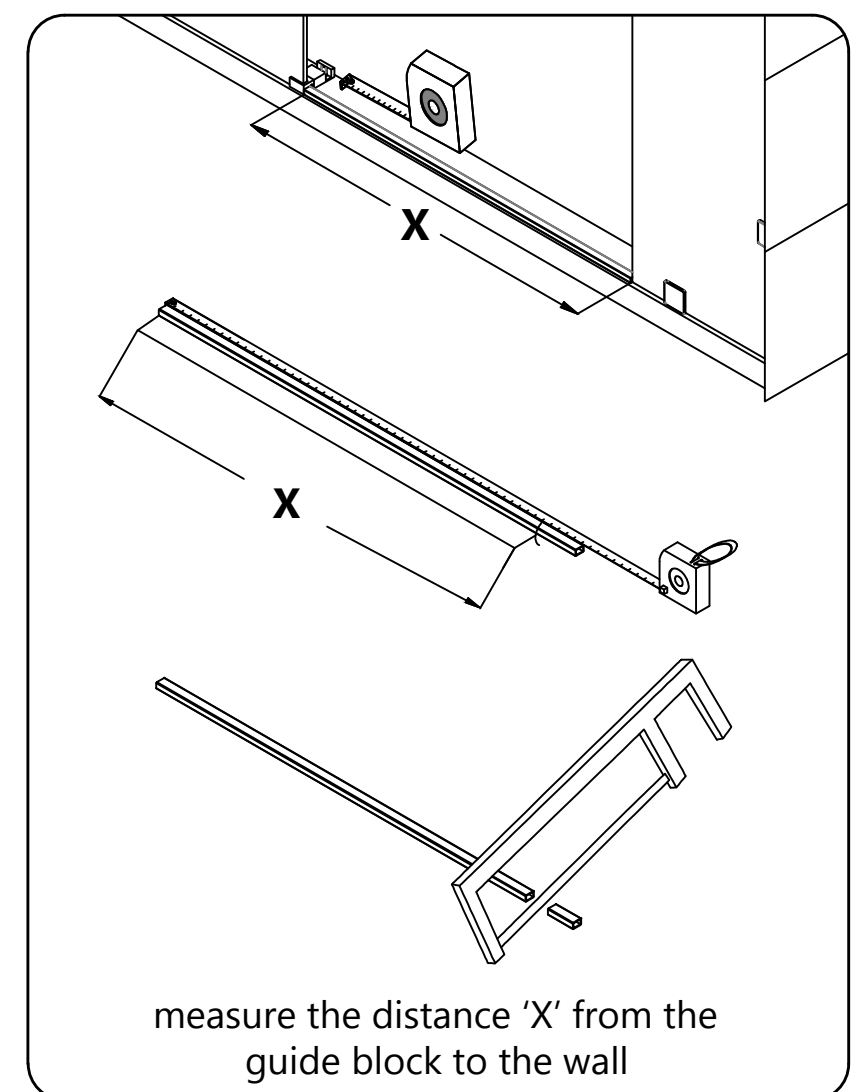

Fig 12
9. Measure the distance from the edge of the **Guide Block (A)** to the wall. This distance will be "X". Cut the **Anti-Splash Guard (B)** to the size of: X. **(Fig 12)**